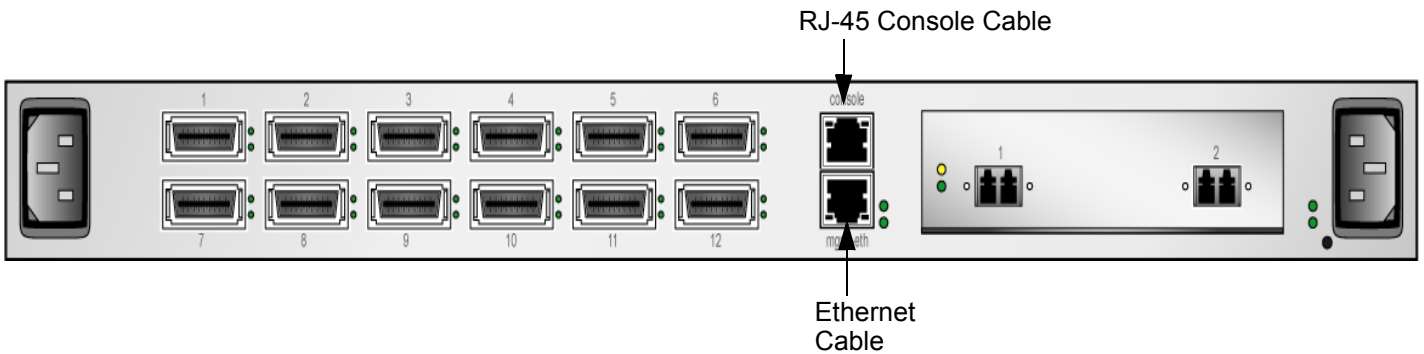

Figure 2-11: Serial and Ethernet Management Ports
2. Attach the RJ-45 console cables from the cable kit that is provided. See Figure 2-11.
4. Connect an Ethernet cable to the Ethernet port (bottom port). See Figure 2-11.